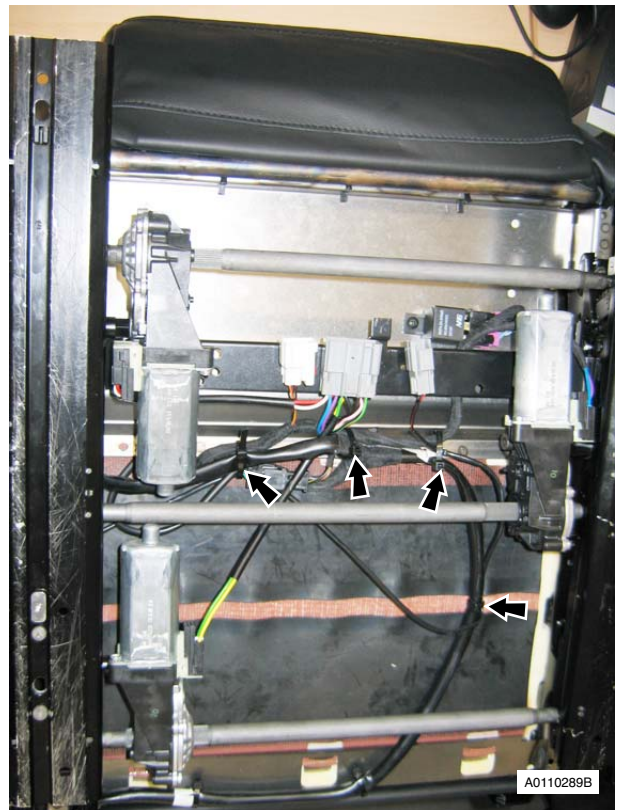

Figure 3
13. Release cable ties (x4) securing seat belt buckle harness to 6 way seat adjuster frame assembly (see Figure 3).